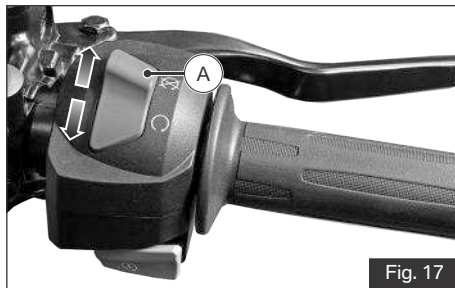

Fig. 17
**A) Switch engine cut-off (ref. Fig. 17)**